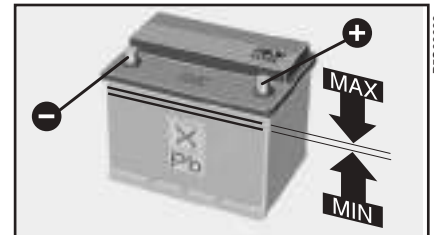

fig. 8
**If the level is lower than the MIN mark fig. 8 have the car seen to at a Fiat Dealership.**